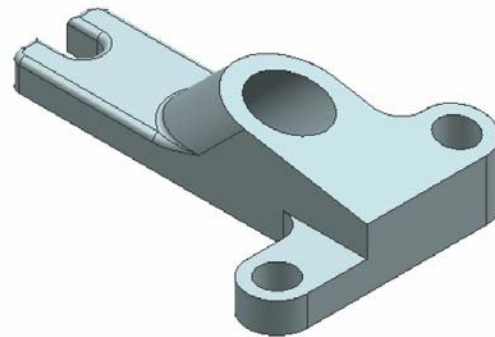

Figure 13-115 The final model
3. Enter **1** in the **Radius 1** edit box of the **Edge** rollout and choose the **OK** button; the final model is displayed, as shown in Figure 13-115.